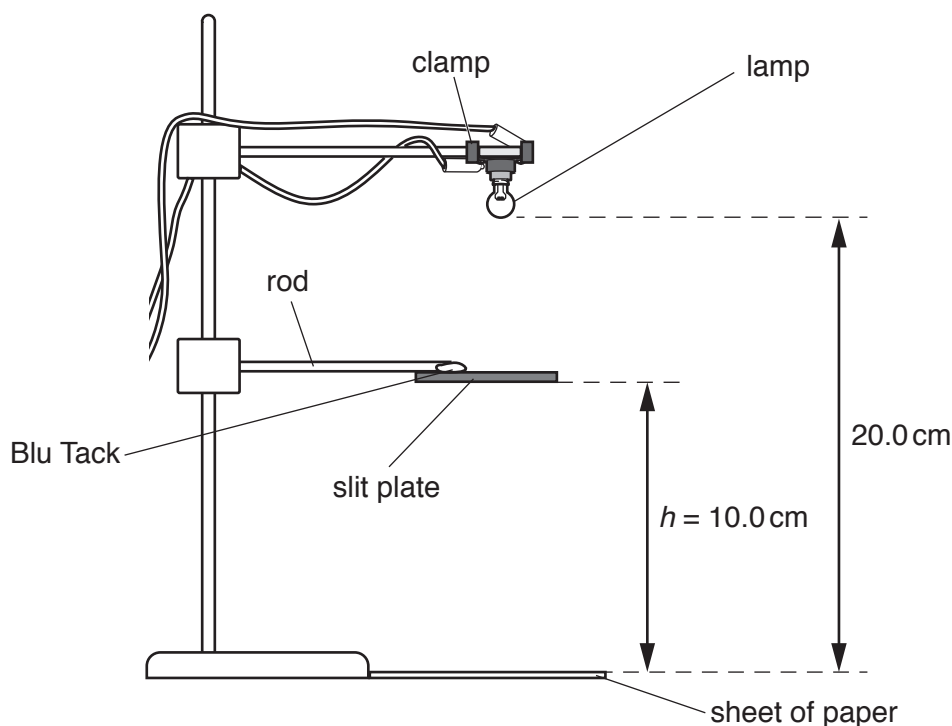

Fig. 4.1
1. Small torch lamp of approximate diameter 1 cm, 2.5V, 250 mA, filament indicator lamp, clear, e.g. RS 106-313. It must be placed in a small holder e.g. RS 171-2603 so that it can be gripped by the clamp. The clamp should be fastened to the stand so that the bottom of the lamp is 20 cm above the paper, as shown in Fig. 4.1. Spare lamps must be available. The lamp must be connected to the power source in series with the switch.
At the changeover the supervisor must ensure that the apparatus is returned to the arrangement shown in Fig. 4.1 and check that the lamp and cells (if cells have been used) are still operational. The sheet of paper should also be replaced if the candidate has made notes or marks on it.